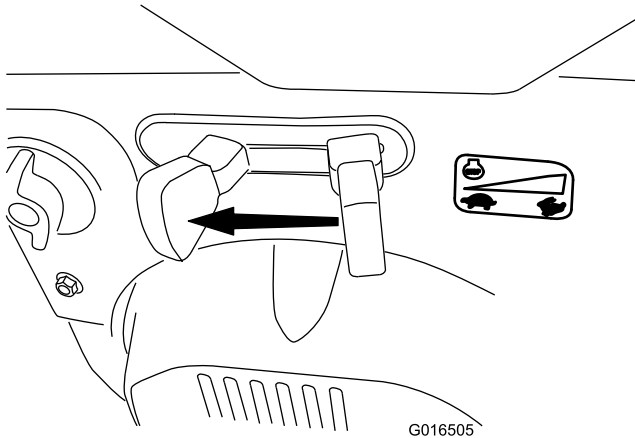

Figure 25
1. Move the throttle to the SLOW position, and then to the STOP position (Figure 25). You can also shut off the engine by pulling the ignition key outward to the middle position.